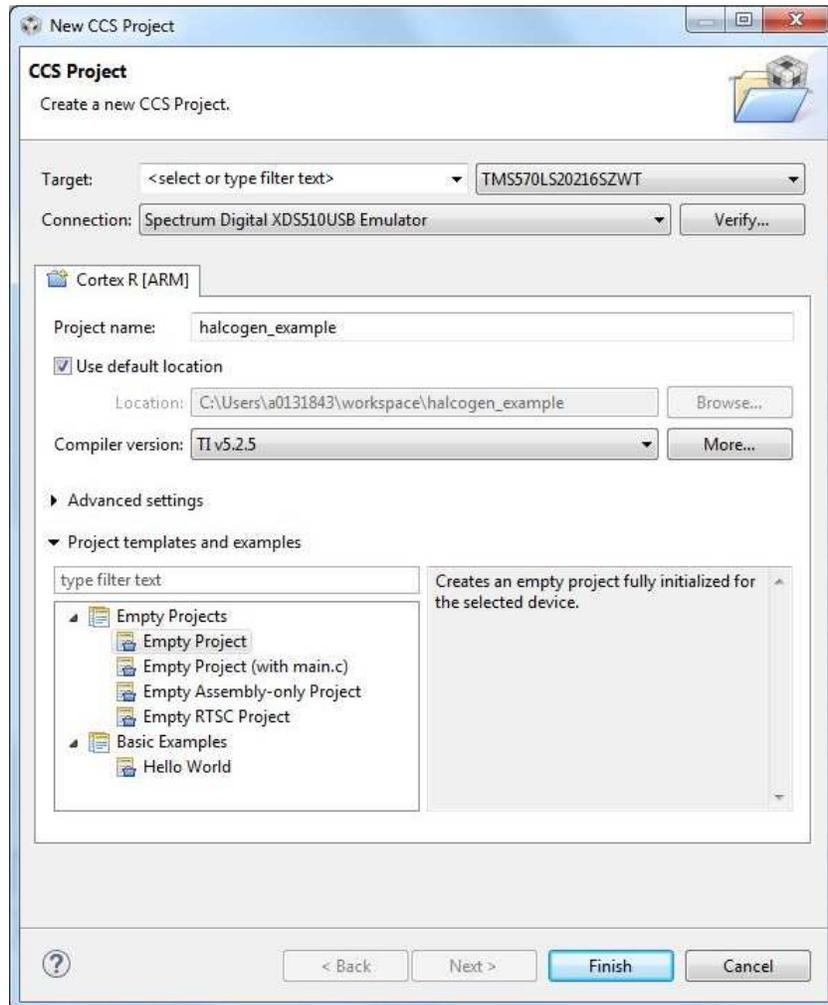

Figure 1. Create a New Code Composer Studio Project
2. Select File → New → CCS Project, from the Code Composer Studio menu bar, after starting the Code Composer Studio IDE. A window will open asking you where to create the Code Composer Studio project. In this case, create the project in the existing workspace, and name the project `halcogen_example` as shown in Figure 1.
3. Create the project using the template of the appropriate RM, TMS570 device. In this case, settings for TMS570L20216SZWT are illustrated in Figure 1.